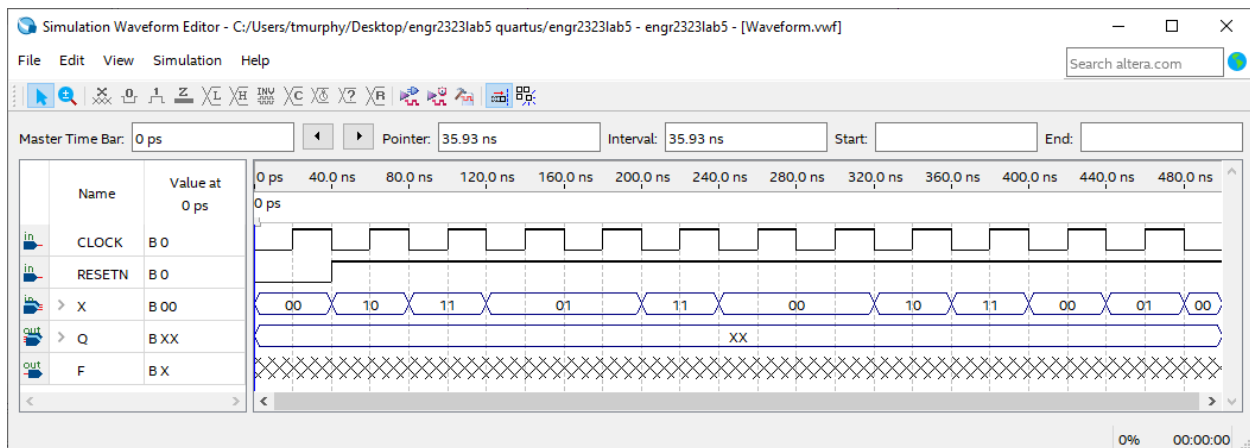

Figure 1. Functional Simulation Waveform
- Compile the design and functionally simulate the design for a vector waveform file with the inputs shown in Figure 1. Note that the inputs $X1$ and $X0$ and the state variables $Q1$ and $Q0$ have been formed into a 2-bit groups.